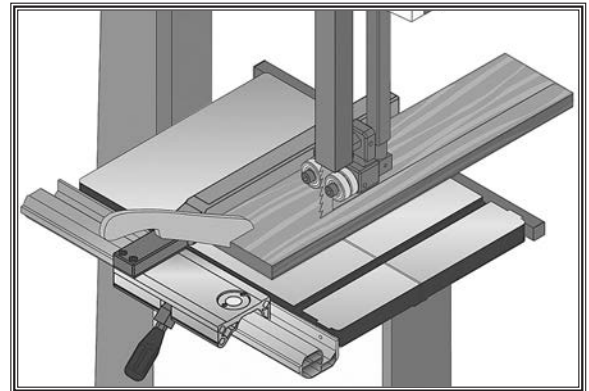

Figure 40. Example of a ripping operation.
3. After all safety precautions have been met, turn bandsaw *ON* and wait for it to come to full speed. Slowly feed workpiece into blade until blade is completely through workpiece. **Figure 40** shows an example of a ripping operation.